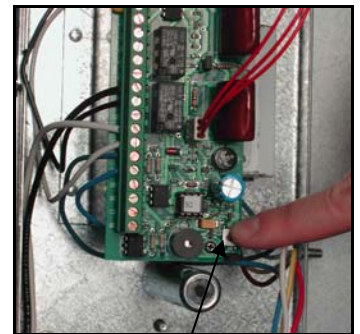

Figure 23
8. Press the timer reset button on the circuit board using the eraser end of a pencil or the blunt end of a plastic ink pen. Hold for three seconds. (See Figure 23)